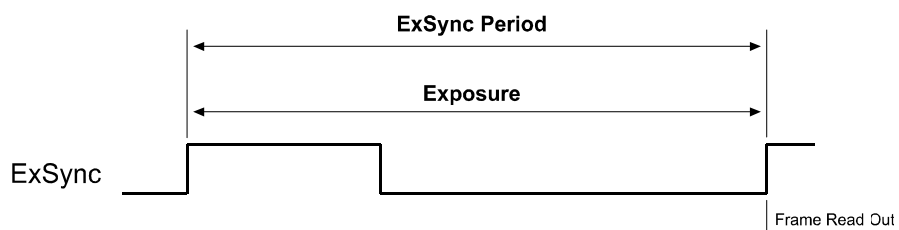

Figure 4-1: ExSync Edge-Controlled Mode
- In **ExSync edge-controlled mode**, the pixels are exposed and charge is accumulated over the full period of the ExSync signal (rising edge to rising edge). The falling edge of the ExSync signal is irrelevant. The frame is read out and transferred on the rising edge of ExSync (see Figure 4-1).